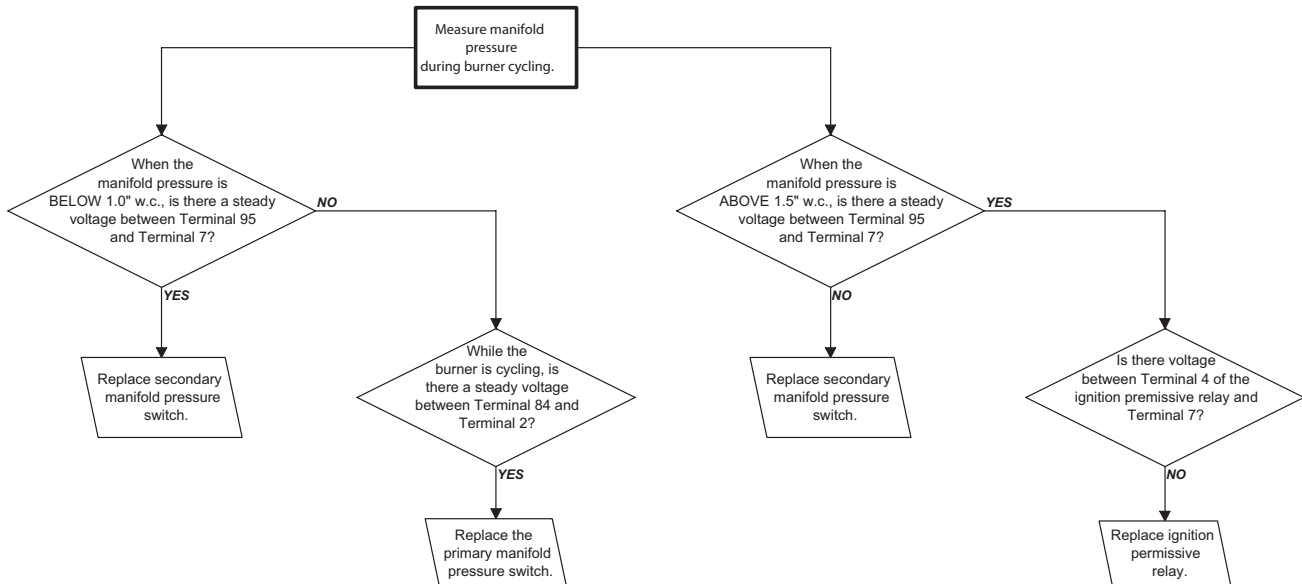

Figure 30. Troubleshooting Guide for Checking Bypass Combustion Air Damper Safety Circuit on Units with Option AG39 or AG40
- Refer to **Table 21** for option AG40 pressure requirements and to **Figure 30** for troubleshooting option AG40.